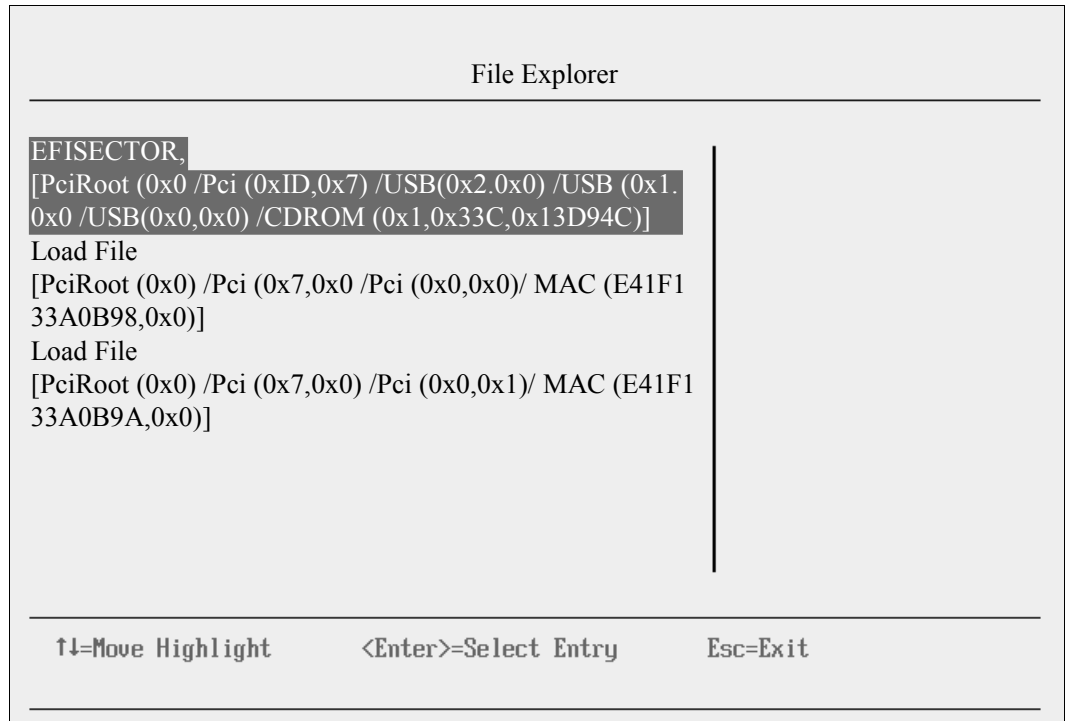

Figure 9-34 Selecting the CD
4. In the File Explorer panel (Figure 9-34), select **EFISECTOR** and the associated information and then press Enter.